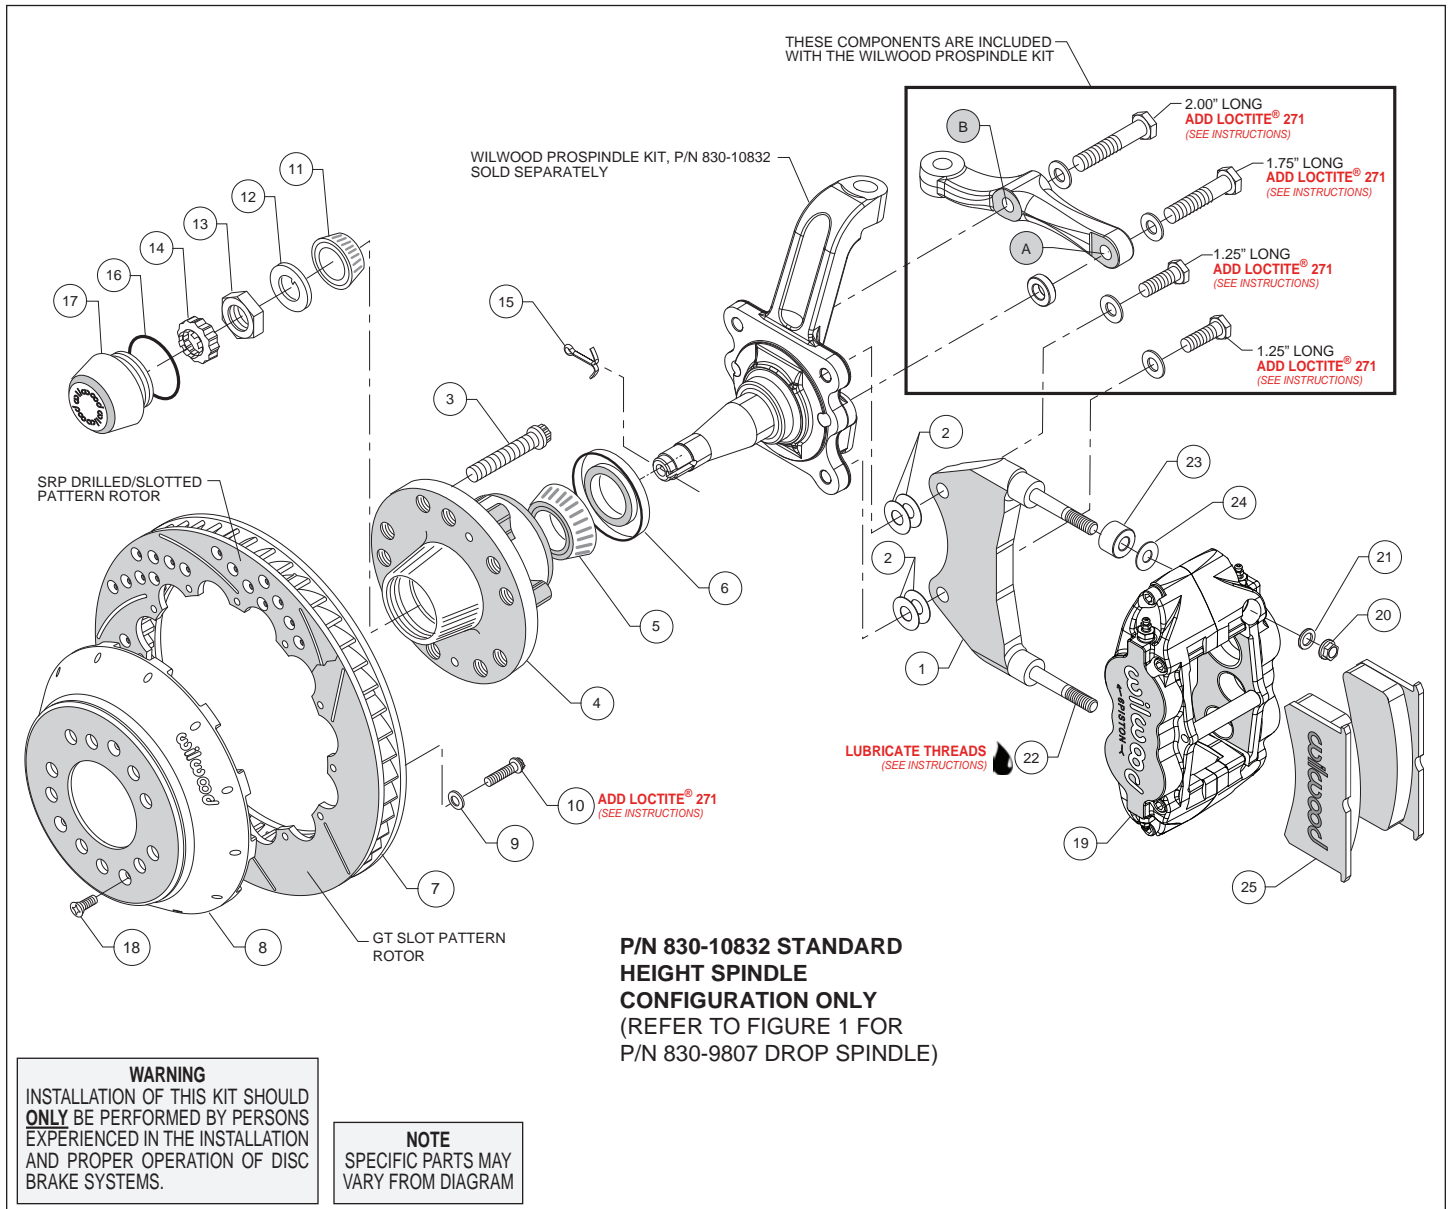

Figure 2. Installation Configuration For Standard Height Spindle, P/N 830-10832
- Orient the bracket as shown in Figure 2 and Photo 2. Install using 1.25" long bolts and .06" thick washers (from ProSpindle kit), and two .016" thick shims (2) on each bolt between the bracket and spindle, Figure 2. Temporarily tighten mounting bolts. **NOTE:** The bracket must fit squarely against the mounting points on the spindle. Inspect for interference from casting irregularities, machining ridges, burrs, etc. Later, after the caliper alignment has been checked, the mount bolts will be secured using red Loctite[®] 271.
- Orient the steering arm, and identify the hole marked 'A', as shown in Figure 2. Install using 1.75" long bolt, .06" thick washer, and .30" thick spacer (all from ProSpindle kit), Figure 2.
- Finish attaching the steering arm through the hole marked 'B', as shown in Figure 2. Install using 2.00" long bolt and .06" thick washer (from ProSpindle kit), Figure 2.